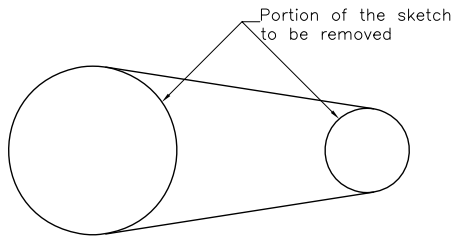
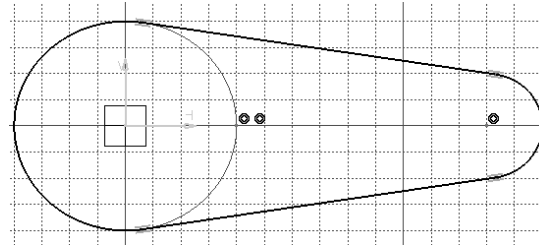

Figure 3-55 The unwanted portion of the sketch to be trimmed
Figure 3-56 The sketch after trimming the unwanted portion
- b. Trim the unwanted portion of the outer loop of the sketch using the **Quick Trim** tool, refer to Figures 3-55 and 3-56.
- Click on the unwanted portion of the sketch, as shown in Figure 3-55. The final sketch is shown in Figure 3-56.